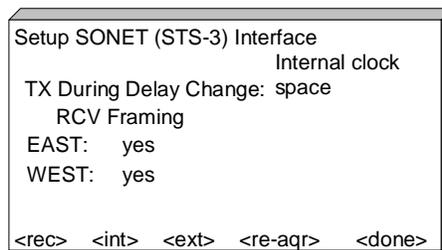

Figure 3.6 Setup SONET STS-3 Interface Screen
4. Select **SONET (STS-3)** and press **ENTER**. The **SETUP SONET (STS-3) INTERFACE** screen is displayed (see Figure 3.6).